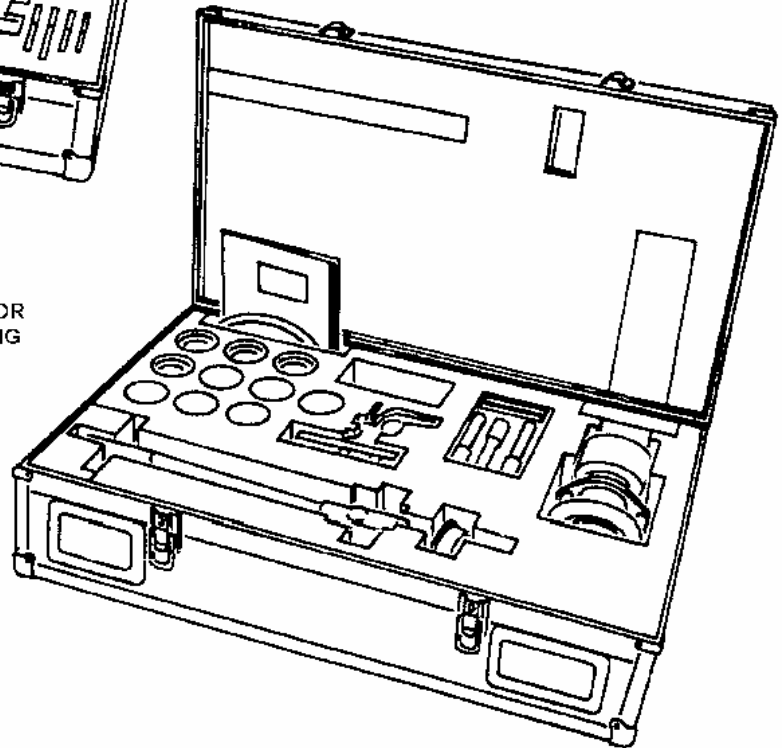

Figure 1. Sierracin/Harrison Hand Swager
4. To attach Harrison flareless sleeves, 35000 series, to hydraulic tubing requires the use of hand swagers, model 5175 or 5720 (Figure 1). The power source is a self-contained, hand-operated hydraulic pump.